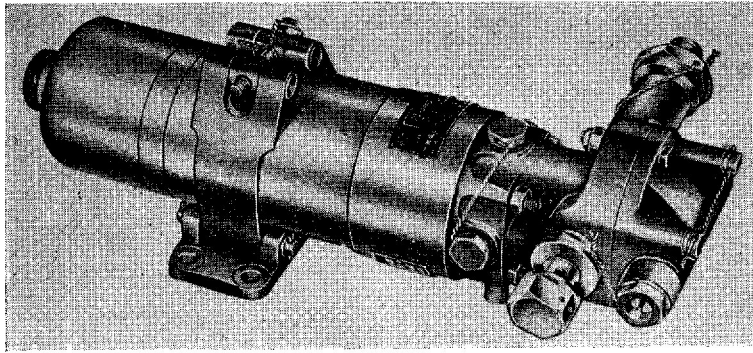

Fig. 1. General view of pump
1. The Plessey MB 022, fig. 1, is an electrically driven booster pump used for engine priming and for starting gas turbine engines. The pump supplies fuel to the engine until sufficient speed has been attained for the main engine driven pumps to take over, at which point it is switched off.